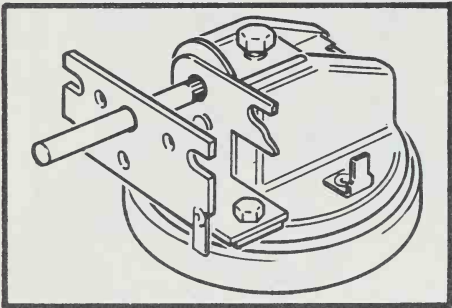

Figure 8. Water valves in a washing machine can fail. But the chief problem lies in clogged screens, which can be cleaned.
3. The water (mixing) valve has the task of letting water into the tub (Figure 8). In this, it is assisted by solenoids.